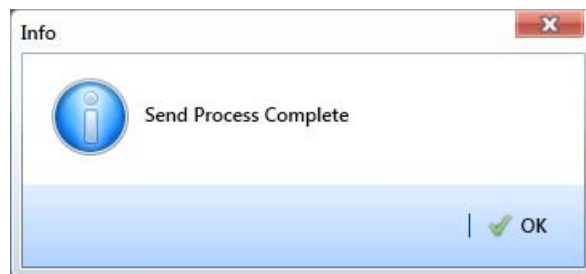

Figure 13-4. Send Process Complete
- 13 When a message displays confirming the send process is complete, click  **OK** to close the message (Figure 13-4).